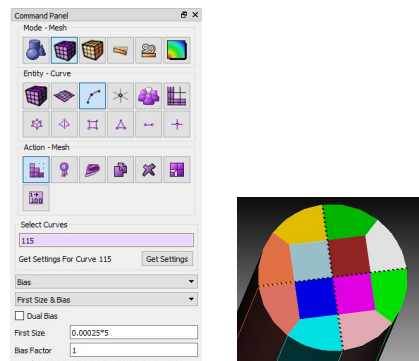

Figure 17: Scheme Curve
- (1) Curve scheme equal size 0.001. (Figure.17)